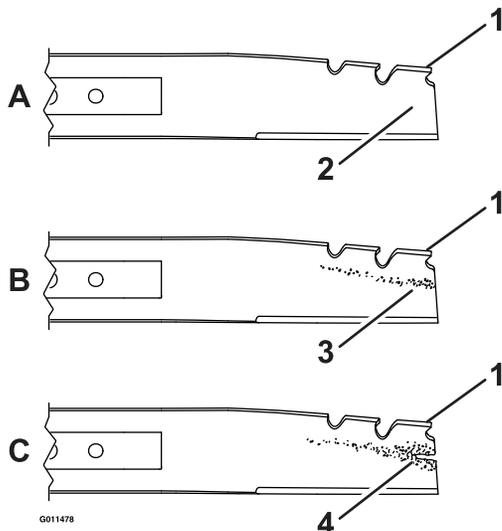

Figure 20
5. Inspect the blade for sharpness and wear, especially where the flat and the curved parts meet (see Figure 20). Because sand and abrasive material can wear away the metal that connects the flat and curved parts of the blade, check the blade before using the lawn mower. If you notice a slot or wear (Figure 20B and Figure 20C), replace the blade.